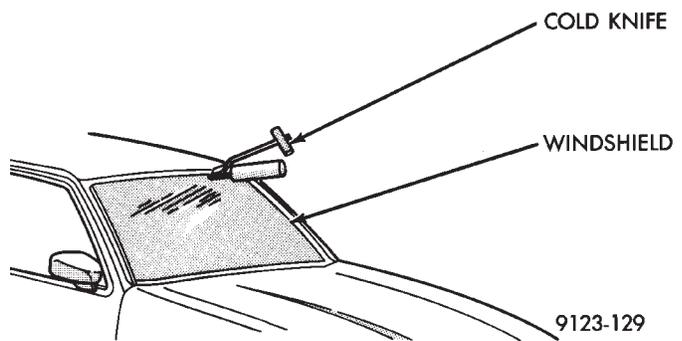

Fig. 2 Cut Urethane Around Windshield
- (4) Cut urethane bonding from around windshield using a suitable sharp cold knife. A pneumatic cutting device can be used if available (Fig. 2).
- (5) Separate windshield from vehicle.